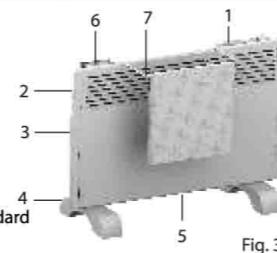

Fig. 3
4. Description of the convector (Fig. 3)